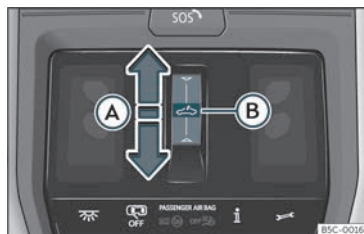

Fig. 87 On the interior roof lining: sunroof button.
- »» Fig. 87 (A).
»» Fig. 87 (A) and keep pressed until the sunroof is fully closed.